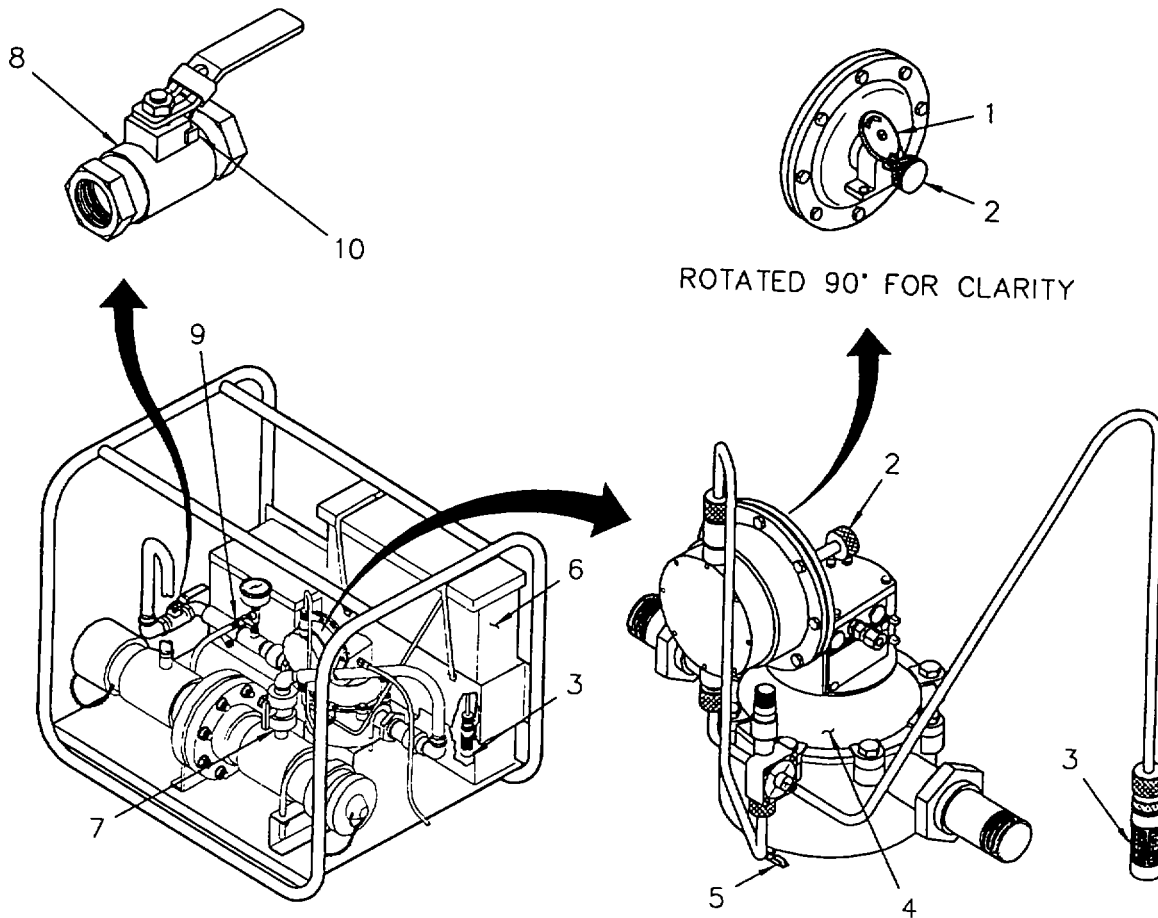

Figure 2-3. Initial Adjustments
- b. Lift locking tab (10, Figure 2-3) and open inlet ball valve (8).